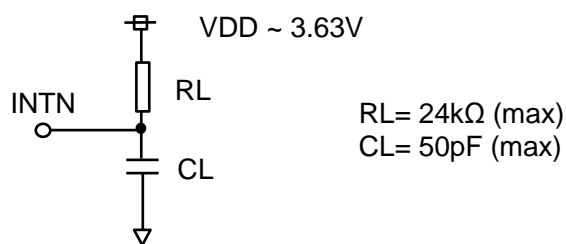

Figure 9.2. INTN load circuit
* 12. The case that the load circuit of Figure 9.2 is connected.